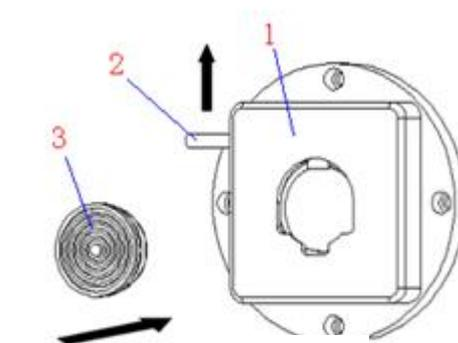

Fig. 20
As shown in Figure 20, lift the clamp lever (2) upward, place the sample (3) into the clamp (1), and then release the clamp lever (2).